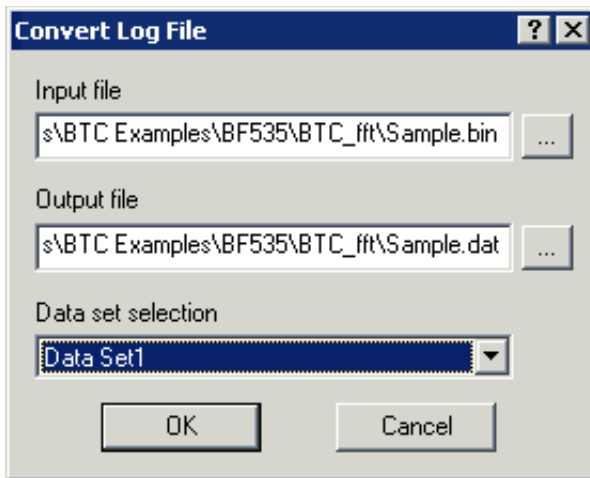

Figure 3-29. Convert Log File Dialog Box
6. Right-click in the **FFT In** plot window, open the **Auto Refresh Settings** dialog box, and click the **Convert to ASCII** button. The **Convert Log File** dialog box, shown in Figure 3-29, is displayed.